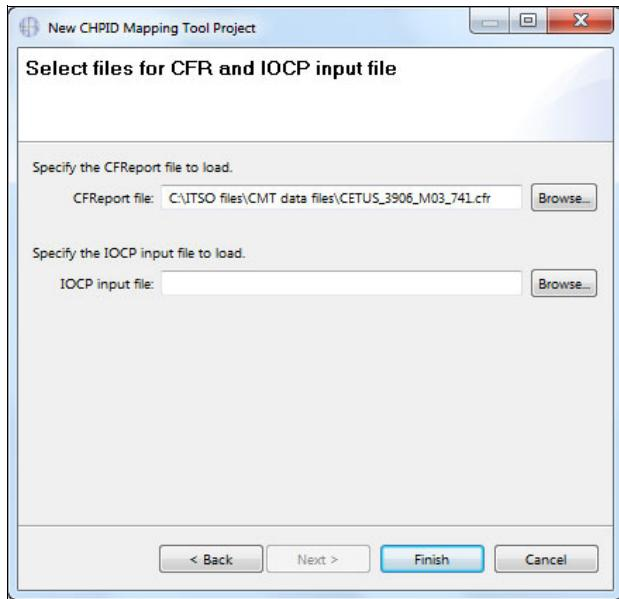

Figure 4-7 Specifying the CFReport file
4. Import the CFReport file into the CHPID Mapping Tool by specifying the name in the **CFReport** file field, and then click **Finish** (Figure 4-7).